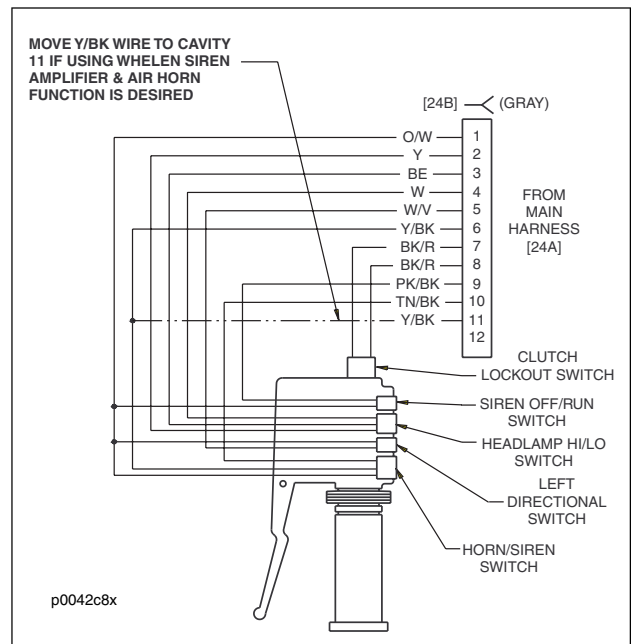

Figure 8-31. Enabling the Air Horn (All Models)
- c. Install Y/BK wire in cavity 11. See Figure 8-31.